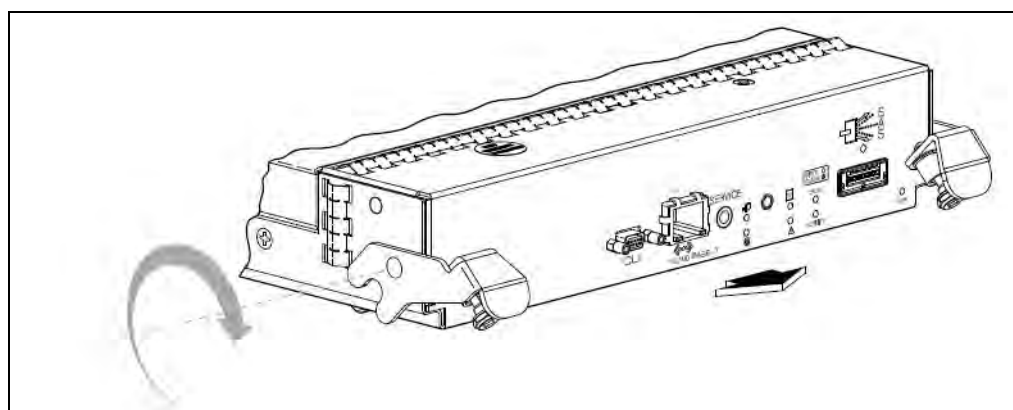

Figure C.47 - Extracting a Controller Module
4. Press both latches downward to disconnect the module from the midplane (**Figure C.47**).